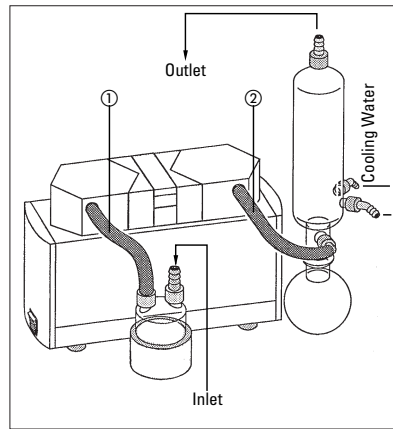

Figure 8: Tubing system SH... (two-headed pumps)
- ② Fix the Support to the Baseplate by tightening the Allen screw on the Support.
- ③ Tubing of two-headed pumps see figure 8. For tubing of single-headed pumps and pumps with aluminum heads (pump types including an „A“ in the type code), please contact KNF. Choose tube material which is resistant against the media to be used.
⚠ Observe the correct usage of the gas- and cooling water-connections on the condenser (see figure 8). Inlet and outlet connections for the vapour side are not interchangeable.